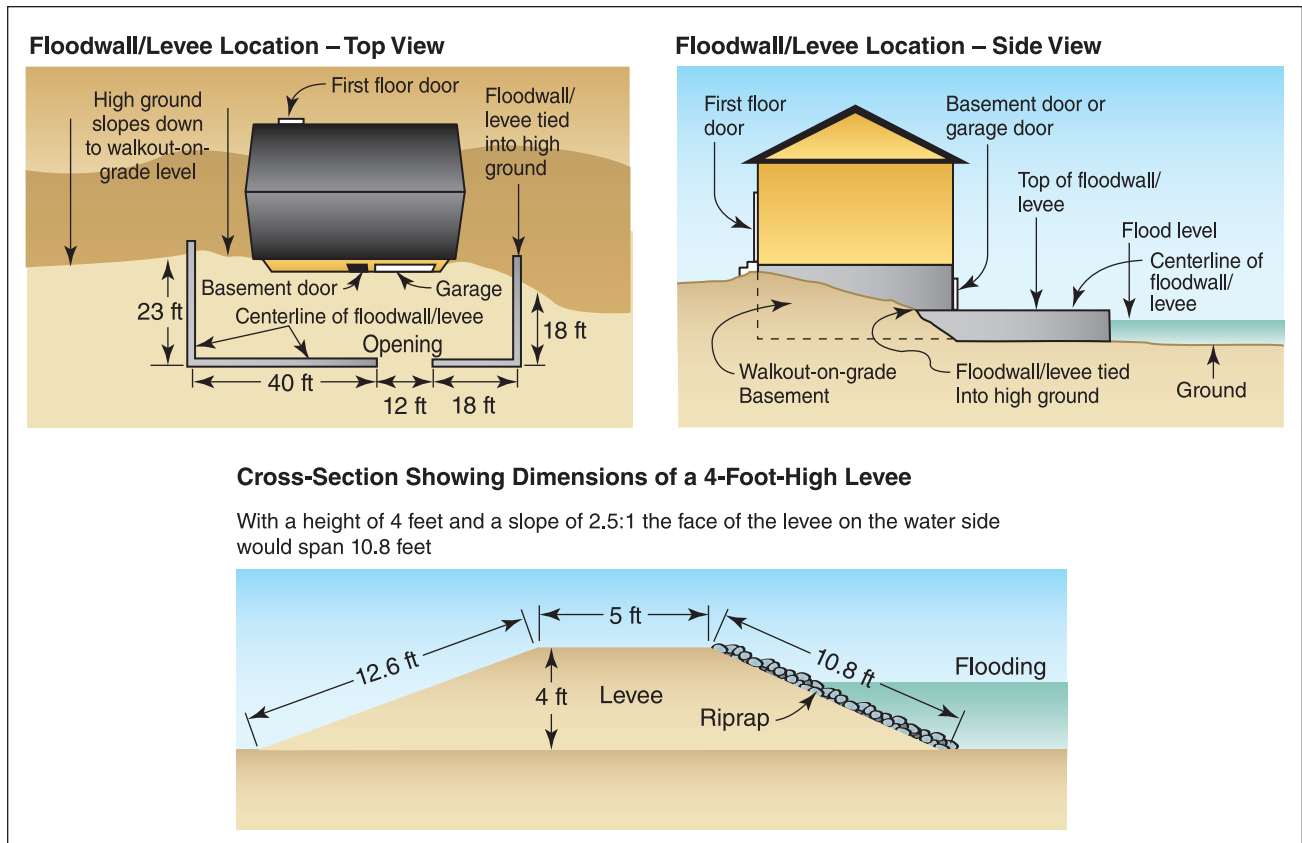

Figure 3-20. Example of floodwall and levee dimensions.
- Levees require a large land area for construction. For example, the levee in Figure 3-20 is 4 feet tall and about 27 feet wide.
Table 3-11 shows the relative costs for levees and floodwalls of various heights. Additional costs for erosion protection using seeding or riprap, interior drainage, and installation of closures may be required for levees and floodwalls. Figure 3-20 illustrates the dimensions of these structures.